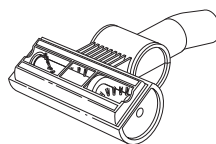

Fig. 30
- 3 Turn the power brush over to inspect the rotating brush and cut away any build-up of hair or string wrapped around the rotating bristle brush with scissors. **(Fig. 30)**